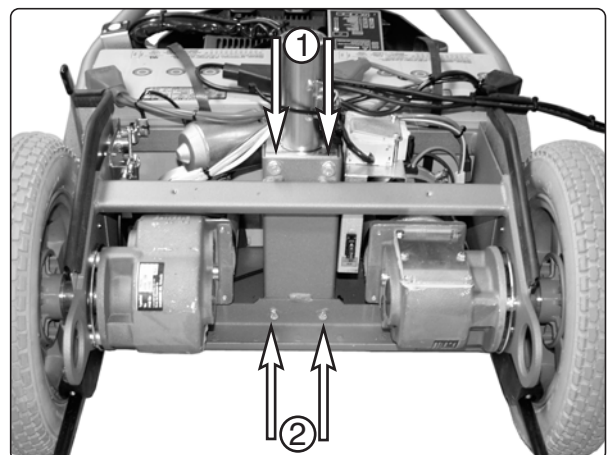

Fig.31. Removing the drive motor.
7. Remove the two bolts from the upper mounting, see fig. 31:1.
8. Remove the two bolts in the lower mounting, see fig. 31:2.